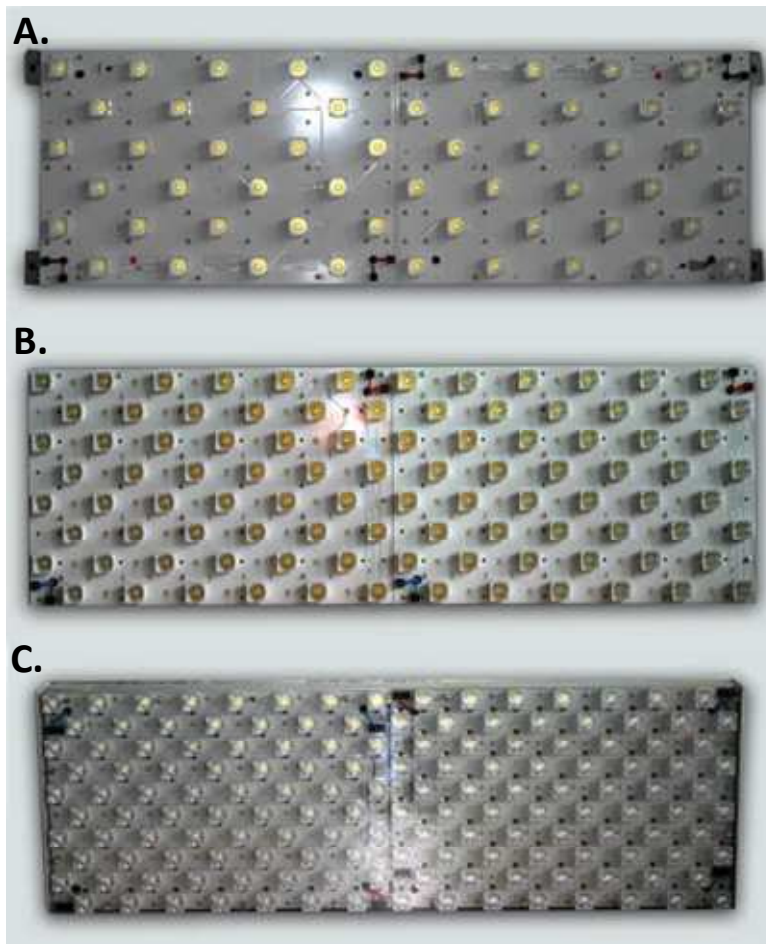

Fig 1. Three different versions of standard LED Fyto-Panels.
- Switch ON the LED Fyto-Panel with main switch (Fig.1)